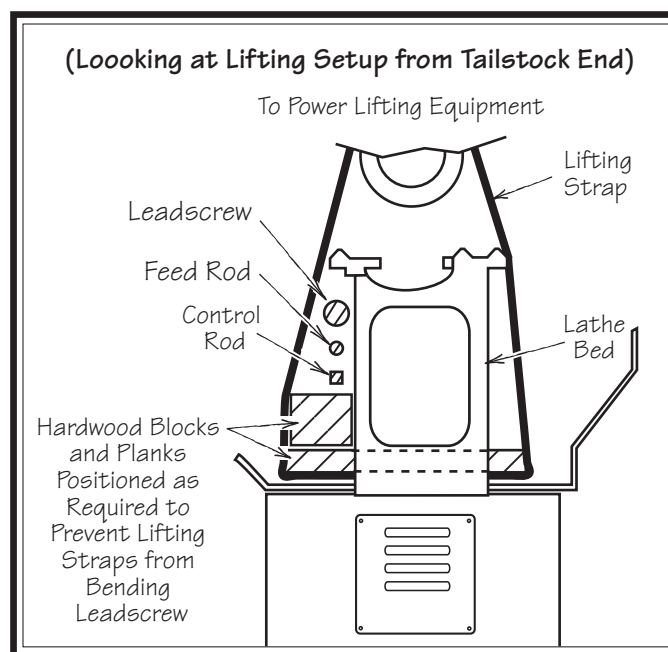

Figure 14. Lifting setup to keep straps from bending leadscrew or rods.
5. Position hardwood blocking under each end of the bed as shown in **Figure 14**. This will keep the lifting straps away from the leadscrew, feed rod, and spindle rod to prevent bending them during lifting.